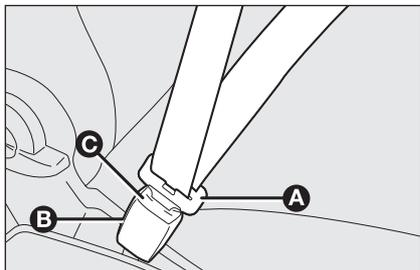

fig. 1
To fasten the seat belts, take hold of the tongue **A**-fig. 1 and insert it into the buckle **B**, until hearing the locking click.
*Never press button C-fig. 1 when travelling.*